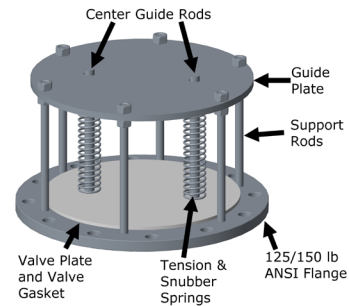

Figure 75a - Relief Valve (RV)
The Relief Valve (RV) consists of a spring loaded disk valve mounted on ANSI flange. See Figure 75a.